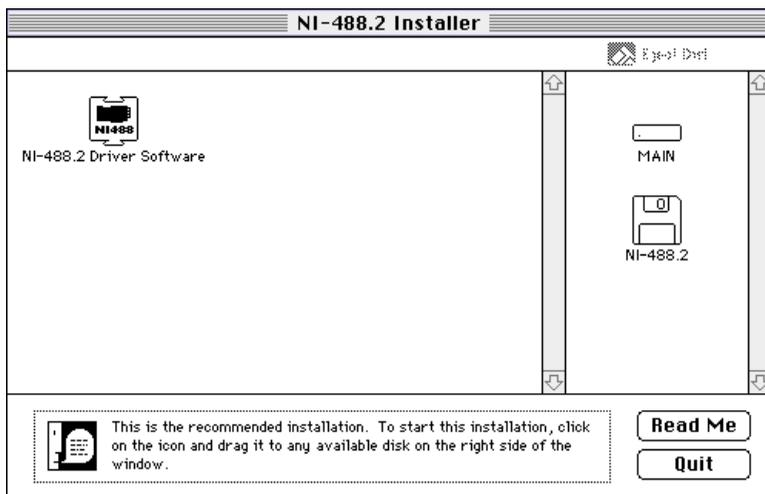

Figure 3-1. Installer Window
- Click on the icon on the left side of the **Installer** window, shown in Figure 3-1, and drag it to any available disk on the right side of the window.